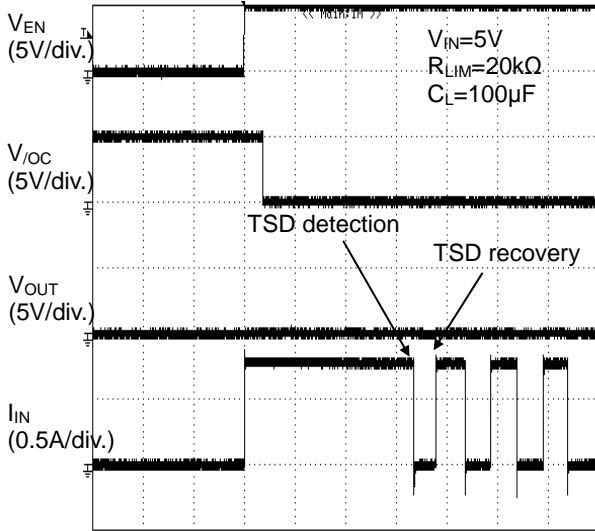

Figure 42. Over Current Response Enable Into Short Circuit (BD2242G)
(1). When the switch is turned on while the output is in short-circuit status, the switch gets in current limit status immediately. (See figure 42.)